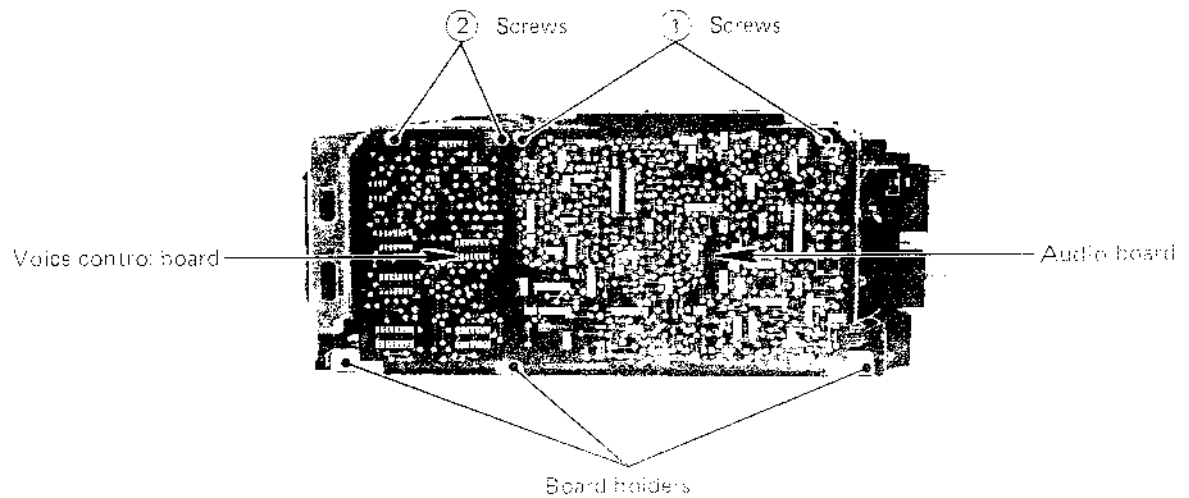
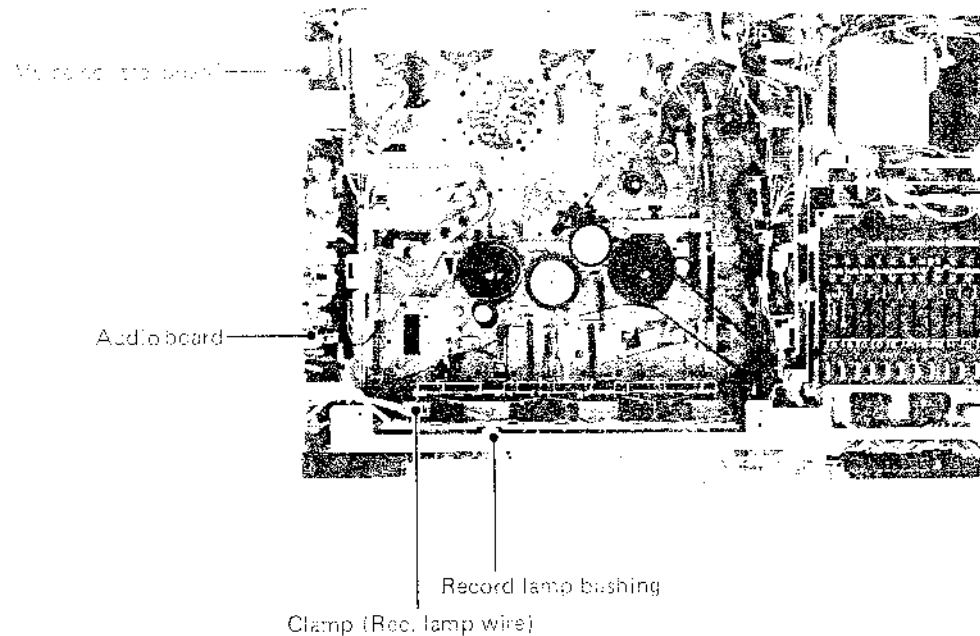

Fig. 3-11
Fig. 3-12
1. Take out 2 screws ① shown in Fig. 3-11. Disengage the REC lamp from the lamp bushing and remove the clamp (1 screw) securing the lamp wire (Fig. 3-12.)
3. Take out 2 screws ② shown in Fig. 3-11. Disconnect the connector plugs, then carefully disengage the VOICE CONTROL board from the board holders and remove the board.